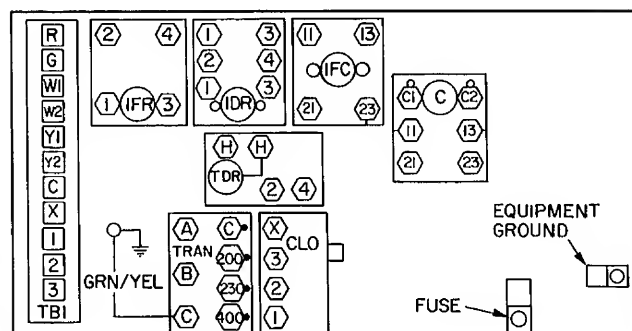

**Fig. 13 — Manual Outdoor Air Damper
5. Remove screws holding manual outdoor air damper to unit. See Fig. 13.
6. Install outdoor air hood assembly, using screws from step 5. These screws secure the manual outdoor air damper assembly and the outdoor air hood to unit. See Fig. 13.